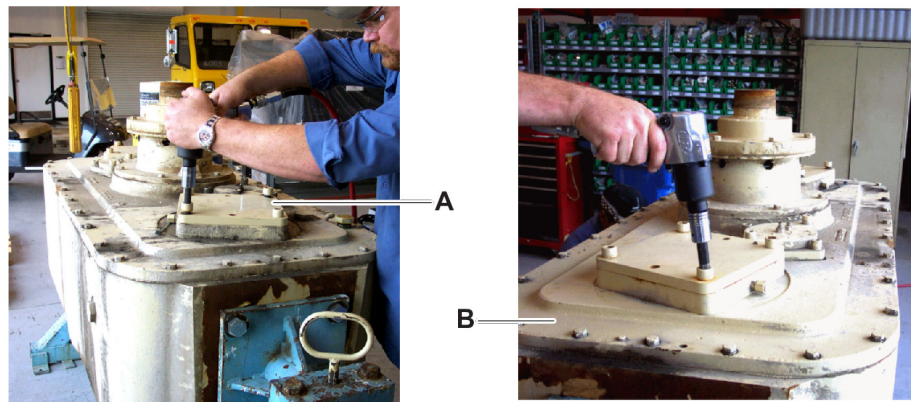

Figure 3
- Remove the hydraulic motor covers (Figure 3, item A), motor adapters, and O-rings from the rotary head cover (item B).